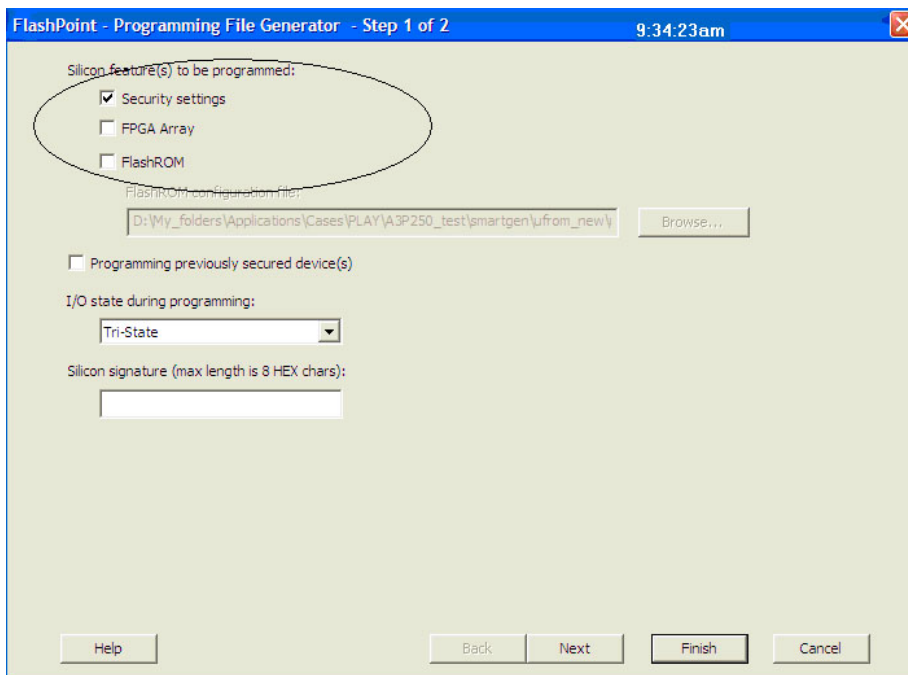
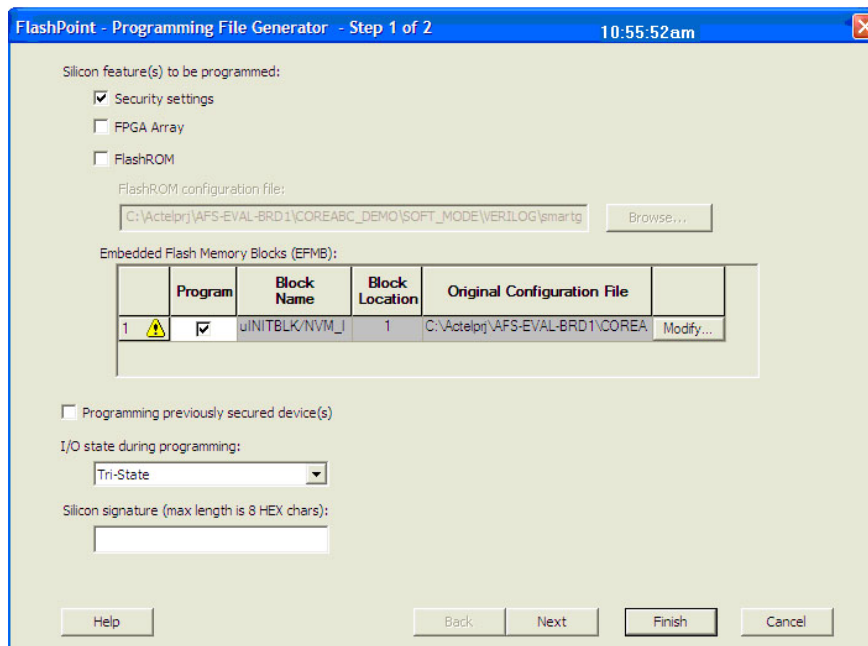

Figure 10-14 • Programming IGLOO and ProASIC3 Security Settings Only
Figure 10-15 • Programming Fusion Security Settings Only
1. Select only the **Security settings** option, as indicated in Figure 10-14 and Figure 10-15 on page 246. Click **Next**.